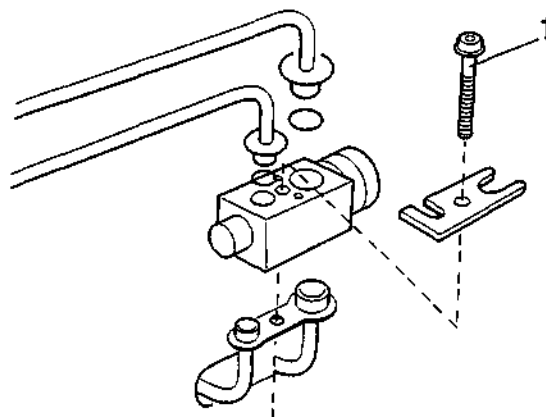

Figure 1.
2. Undo the pipe to expansion valve clamp bolt and retaining plate and disconnect the pipes (Fig. 1)